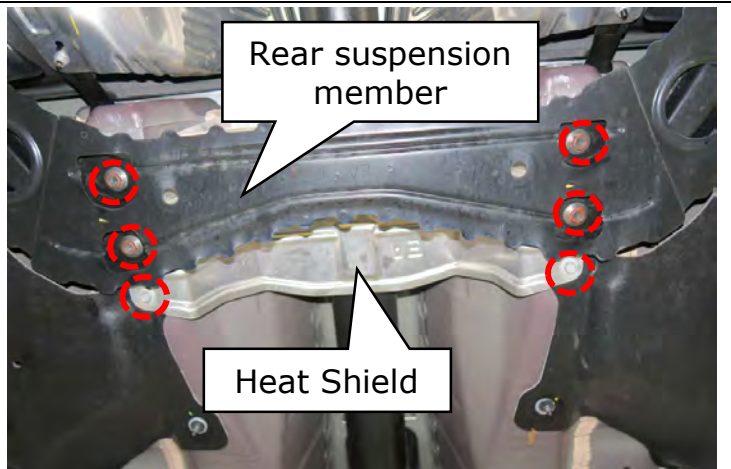

Figure 106
105. Reinstall the (4) rear suspension member bolts and the (2) heat shield bolts. (Figure 106)